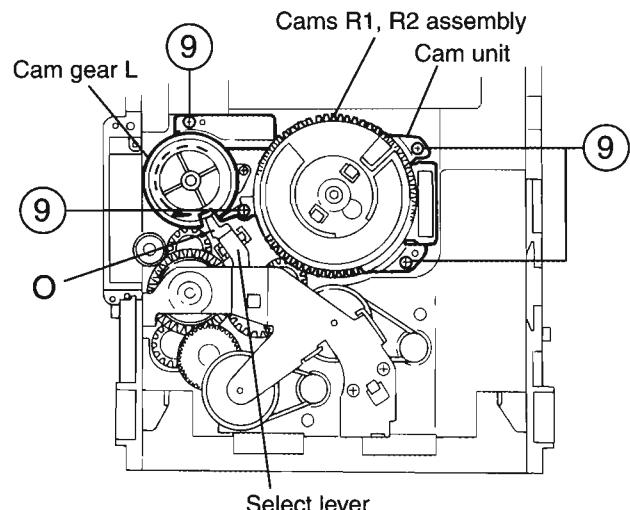

Fig.18
- While turning the cam gear L, align the pawl "O" position of the select lever to the notch position(Fig.18) on the cam gear L.
- Remove the four screws 9 retaining the cam unit(cam gear L and cams R1/R2 assembly)(See Fig.18).